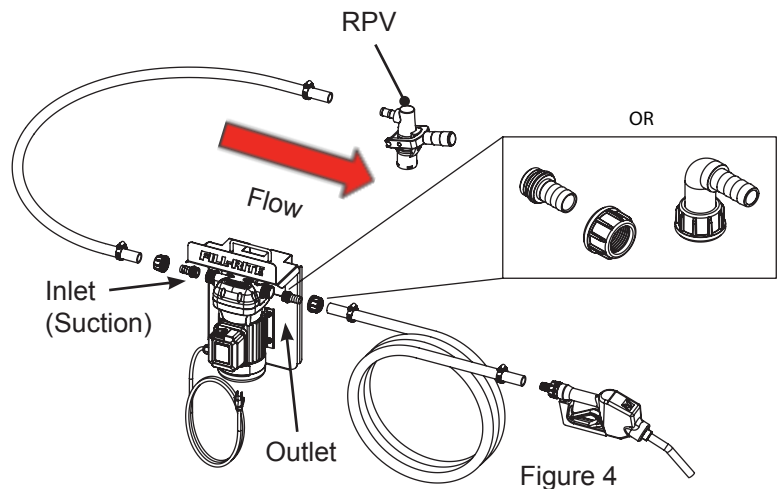

Figure 4
2. Install Suction Hose to suction side of pump with included barb fittings and hose clamp (Figure 4). Suction side is left side when facing mounted pump.
3. Install the opposite end of suction hose to closed loop suction device with appropriate fittings (Models DF120CAT520, DF012CAT520, DF120CAN520-RP, and DF012CAN520-RP include an RPV to attach) (Figure 4)
4. Install Discharge Hose with nozzle to discharge side of pump with included barb fittings and hose clamp (Figure 4).
3. Install Suction Hose to suction side of pump with included barb fittings and hose clamp (see Figure 4, page 5).
4. Install the opposite end of suction hose to suction device with appropriate fittings (see Figure 4, page 5).